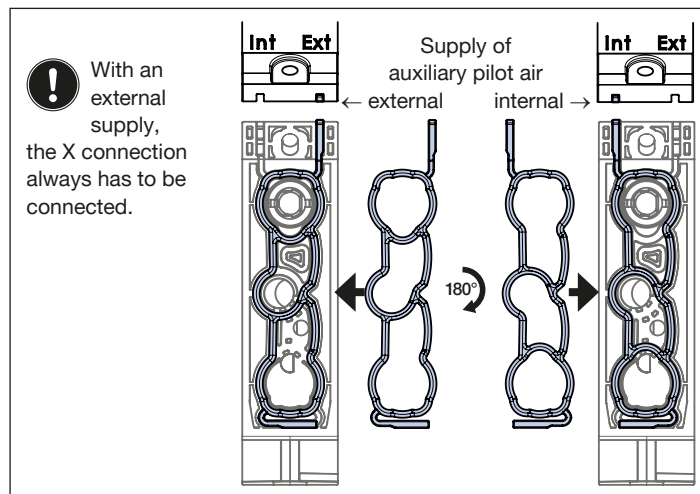

Fig. 19: By rotating the seal 180°, it is set whether the auxiliary pilot air supply occurs internally or externally.
- Prior to start-up, make sure all the seals of the connection modules are positioned equally (external or internal, see "Fig. 19").